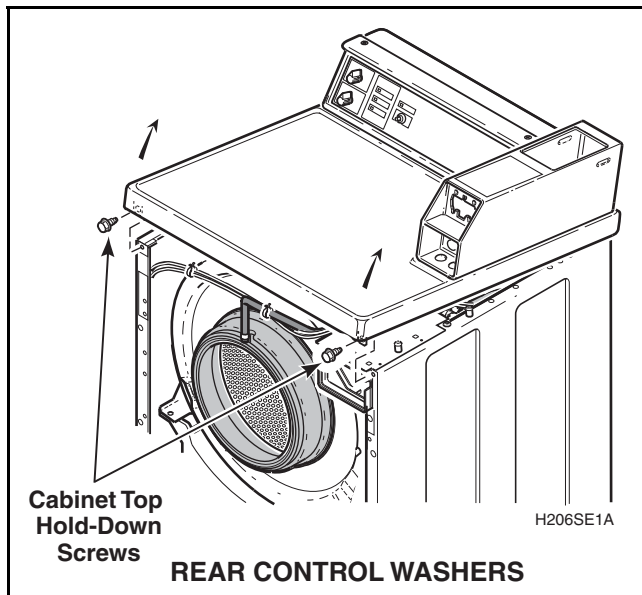
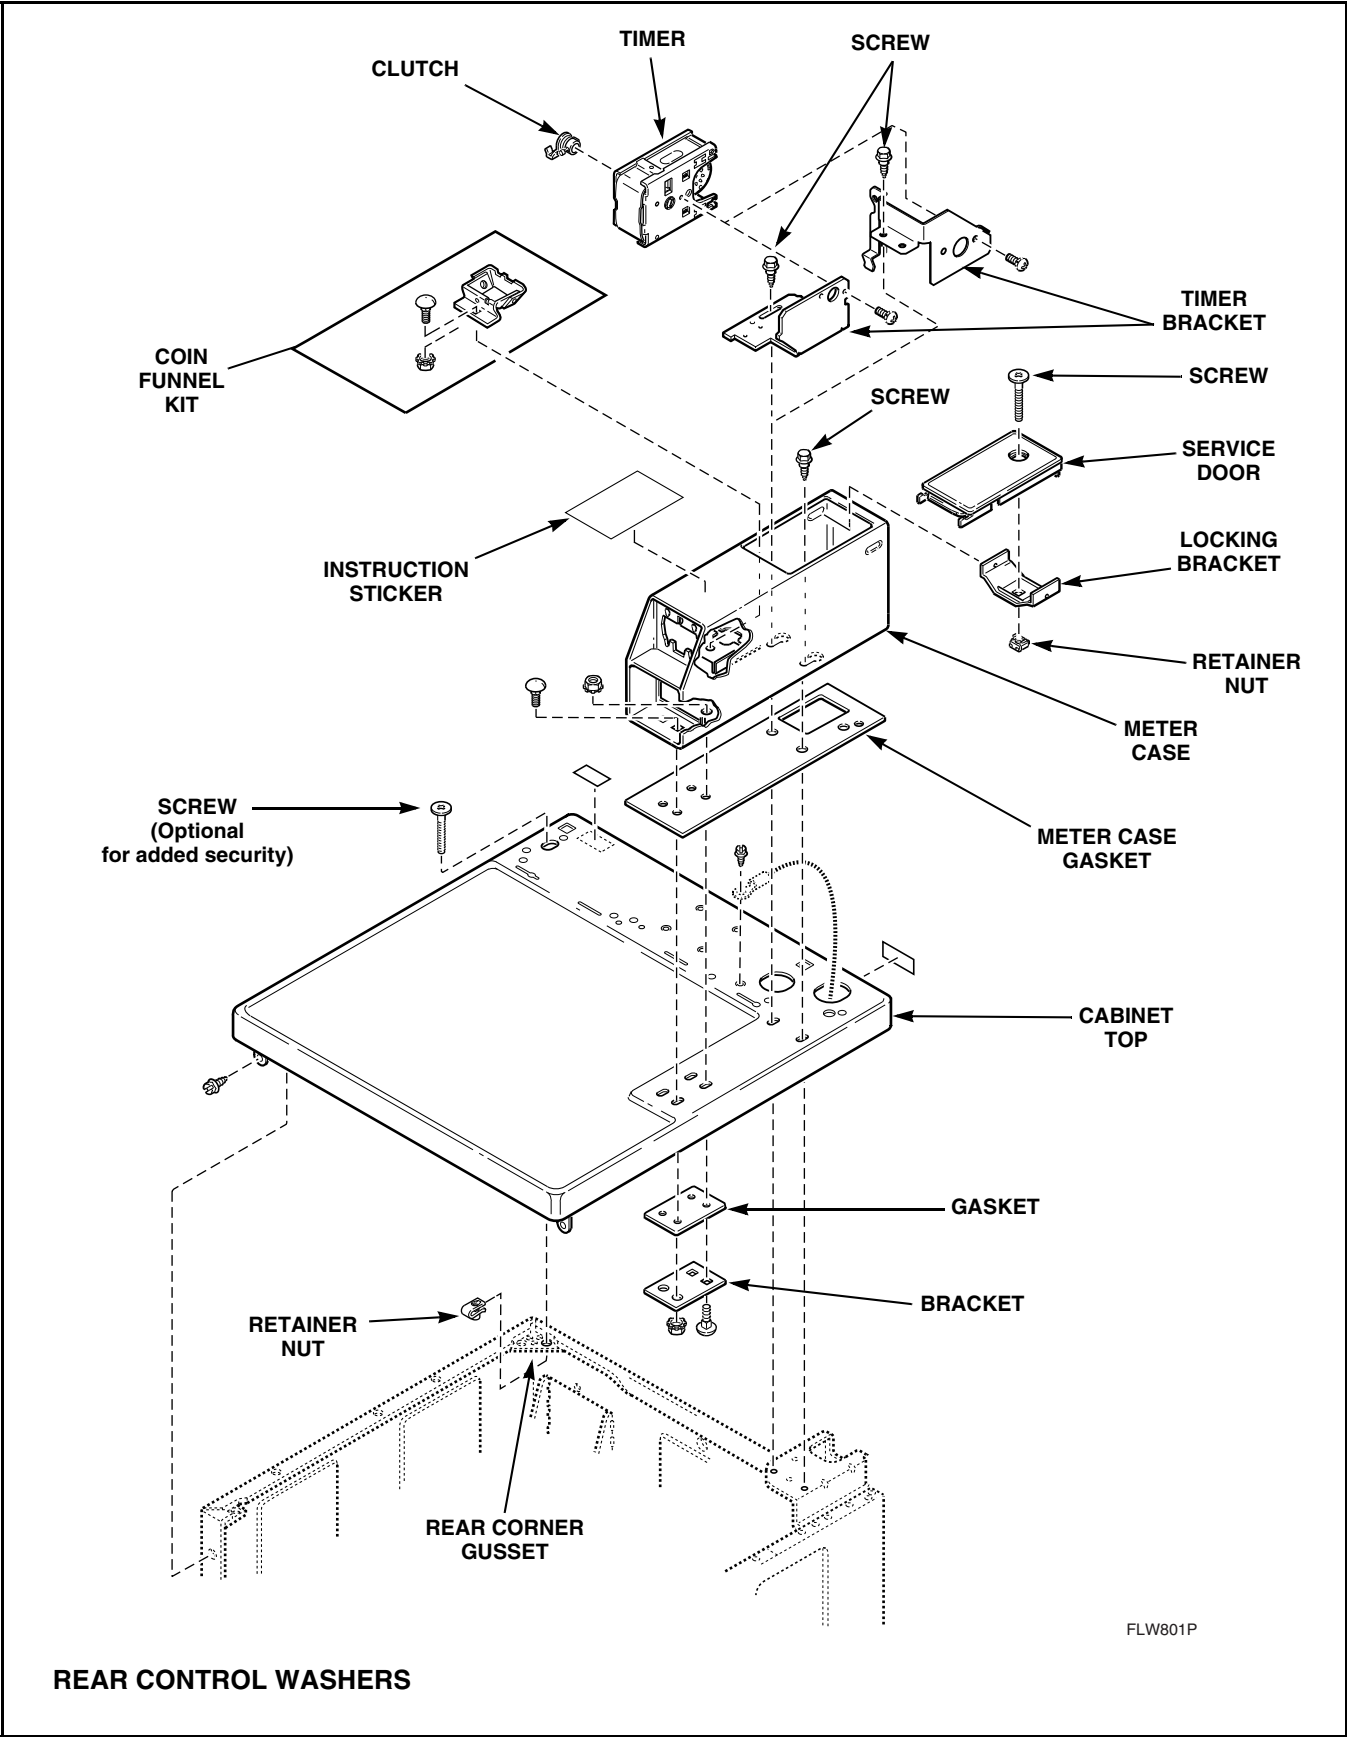

Figure 37
Figure 40
- (10) Push base wire harness block and pressure hose down through hole in cabinet top.
- (11) Reinstall control panel and screws.
- (12) Unlock and remove meter case service door.
- (13) Remove timer bracket cap screw. Refer to *Figure 40*.
- (14) Slide timer and bracket toward rear of meter case to disengage bracket from shoulder screw.
- (15) Lift timer and bracket out of meter case through service door opening as far as wires will permit.
- (16) Remove shoulder screw from inside meter case.
- (17) Remove security bolt (if present) from left rear corner of cabinet top.
- (18) Remove two screws holding front of cabinet top to front flange of side panels. Refer to *Figure 37*.
- (19) Lift front of cabinet top slightly and pull forward to disengage from rear hinges.
- (20) Pull top forward far enough to permit disconnecting ground wires from top rear corner gusset of washer cabinet. Refer to *Figure 40*.
- (21) Disconnect wires from mixing valve solenoids at rear of washer.
- (22) Carefully lift cabinet top off washer and set on protective padding.
- (1) Unlock and remove meter case service door. Refer to *Figure 40*.
- (2) Remove timer bracket cap screw. Refer to *Figure 40*.